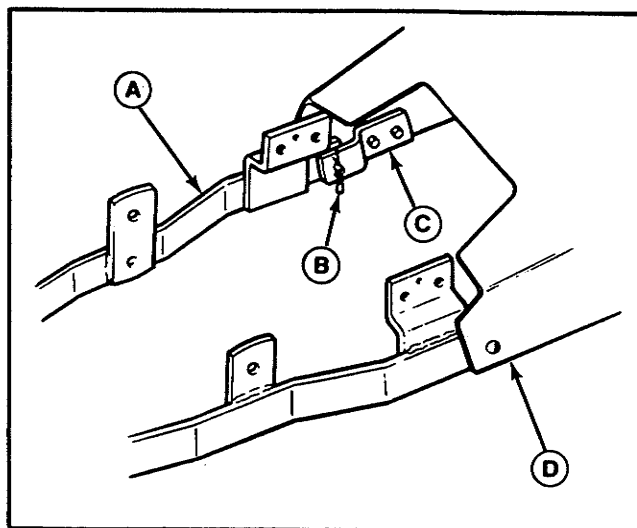

Figure 22. Hitch, Side View
2. Attach the hitch to the snowthrower with two pins and two spring clips provided. See figure 22. Install spring clips on the inside.